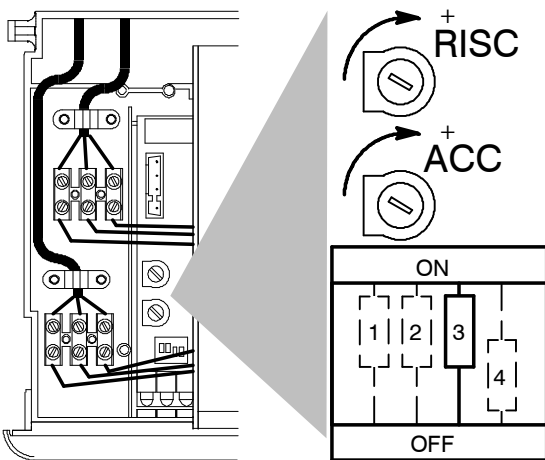

Fig. 7.8
- 14 Check the ignition gas pressure by setting dip-switch "3" (Fig. 7.8) to the OFF position. Compare the value on the gauge with the value
To adjust the ignition gas pressure, set dip-switch "3" (Fig. 7.8) to the OFF position and adjust potentiometer marked "ACC" with a screwdriver until correct ignition gas pressure is obtained.
With the boiler operating in c.h. mode, use a suitable screwdriver to turn the adjustment potentiometer marked "RISC" (Fig. 7.8).